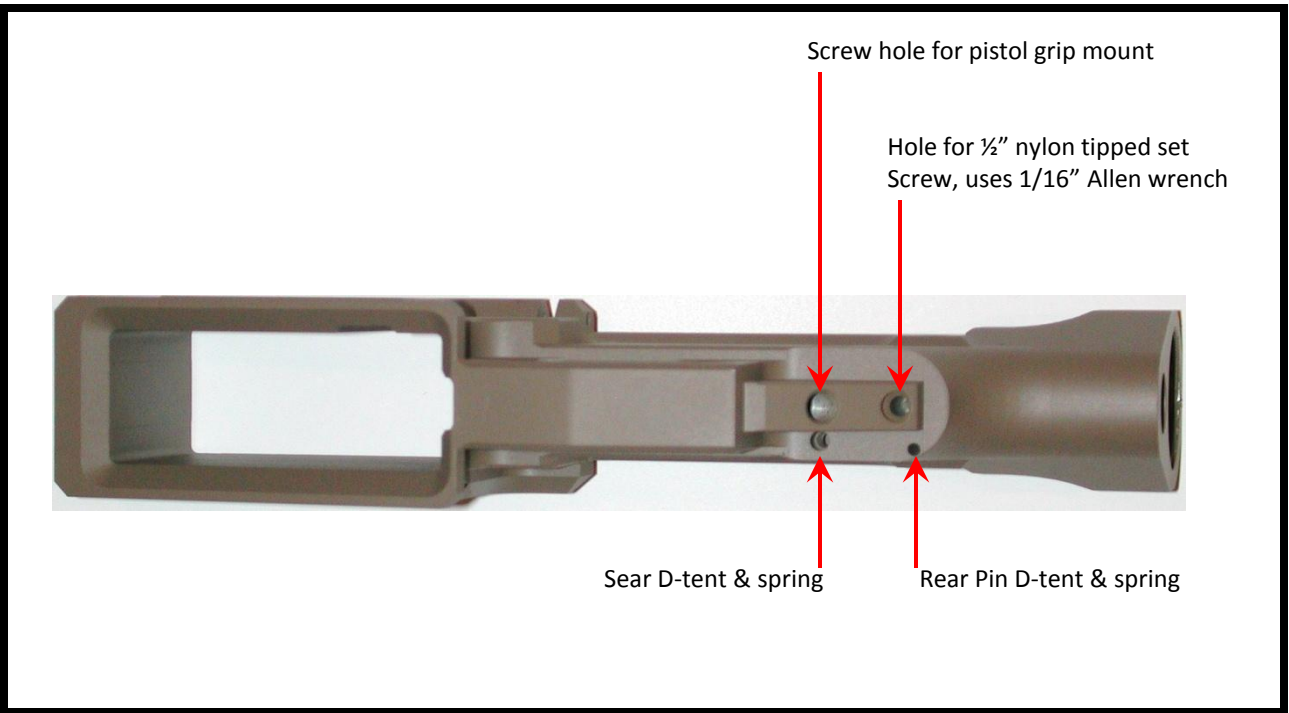

Figure 3
5. The DPMS™ and Armalite™ compatible version comes with a nylon tipped ½" set screw behind the pistol grip screw mount. This is to firmly tighten the rear lug of the upper to the lower and eliminate any wobble. It uses a 1/16" Allen wrench for adjustment. (Figure 3 & 4)